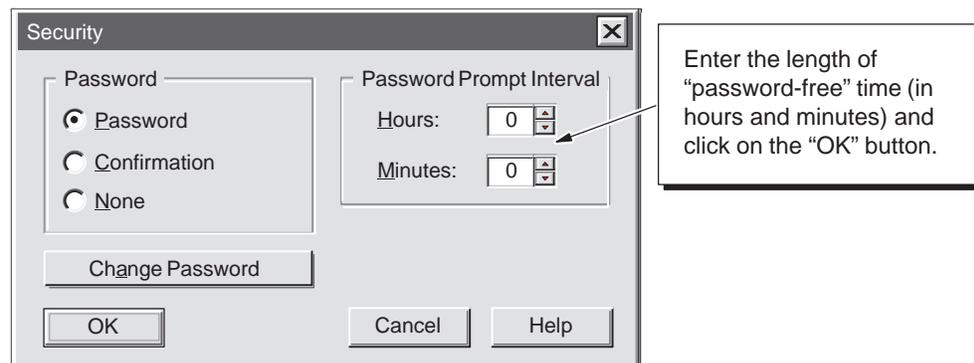

Figure 4-23 Configuring the Password Validity
3. In the “Security” dialog box, enter the length of time for the password to be valid. See Figure 4-23.